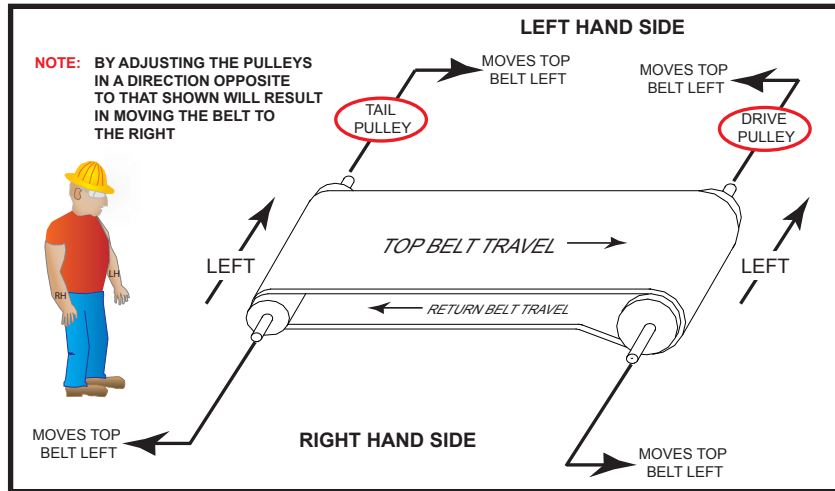
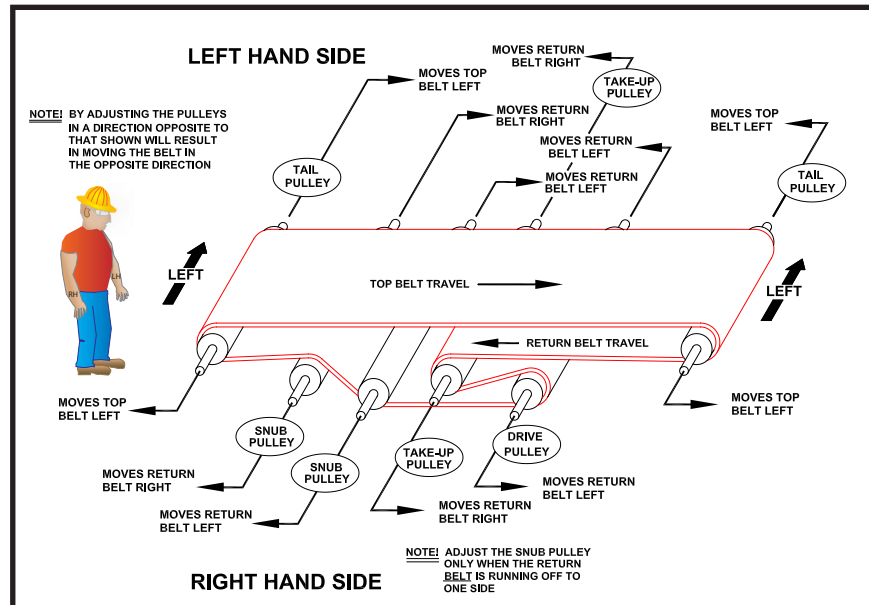

FIGURE 7
FIGURE 8
- The first step in belt tracking is to make sure all pulleys are parallel with each other and perpendicular to the frame. Once this has been done refer to FIGURE 7 for proper tracking adjustments on end drive conveyors or FIGURE 8 for proper tracking on center drive and take-up conveyors.